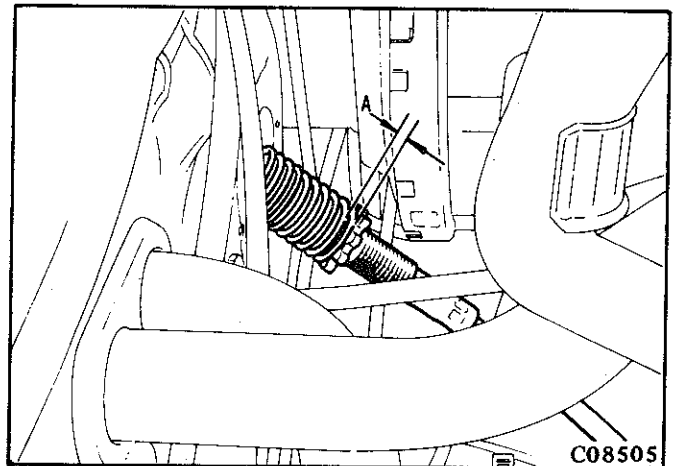

Fig. 5—Adjusting the clutch cable
- (1) Check the cable for breakage and damage.
- (2) Lubricate the cable prior to installation.
- (3) Route the cable so there are no sharp bends.
- (4) Adjust the gap (A in fig. 5) between the adjusting nut or circlip and the cable dash panel support to specification.